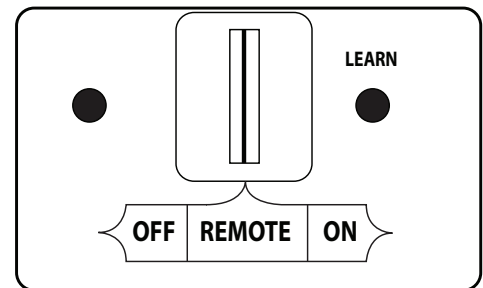

Fig. 39-1 Remote receiver detail (REMOTE)
1. Locate the 3-position switch on the remote receiver (see Fig. 39-1), and slide the switch to the **REMOTE** position.